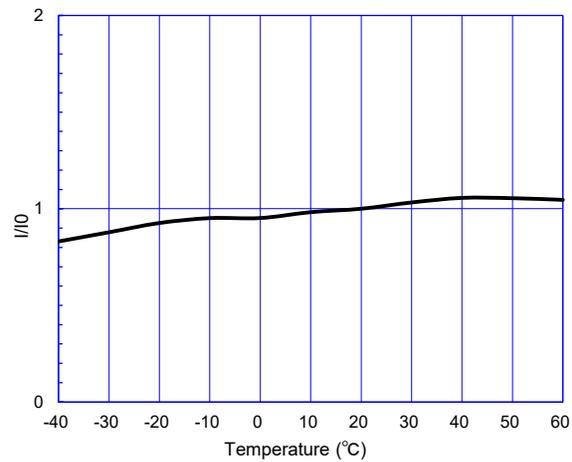

Fig. 7 - Temperature dependency (I₀=sensor output current at 20°C)
Figure 7 shows the sensitivity change with temperature measured using the recommended basic measuring circuit. The Y-axis shows the ration of output current in 20ppm of SO₂ at various temperatures (I) to the output current in 20ppm of SO₂ at 20°C. The sensitivity gradually decreases as the temperature decreases, and the sensitivity slightly increases as the temperature increases. Therefore, the temperature dependency of sulfur dioxide sensitivity of FECS43-20 can be compensated by a NTC thermistor.